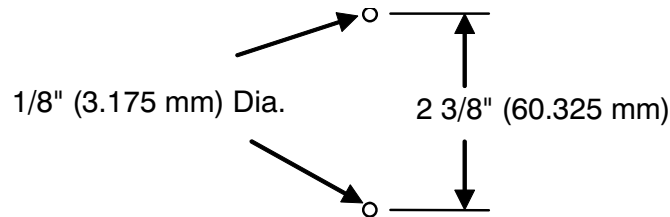

Fig. 1 – Relay Mounting Hole Detail
5. Punch or drill two 1/8" (3.175 mm) diameter holes in the center of the blank plate, 2-3/8" (60.325 mm) apart (Fig. 1).